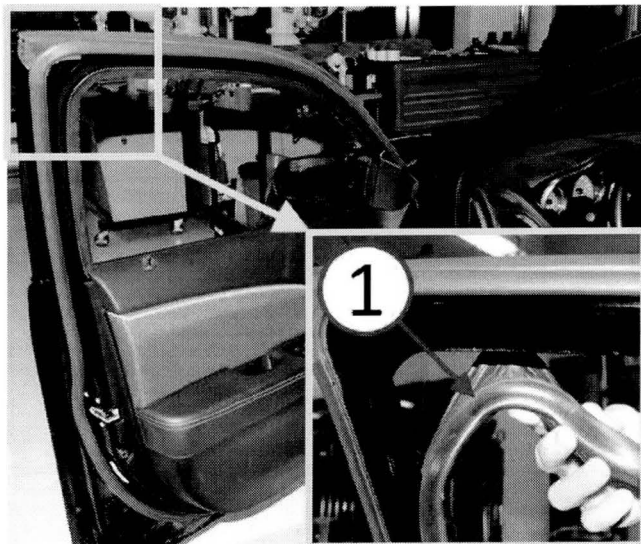

Fig. 1 Remove Window Run Channel Seal
2. Remove the window run channel seal from of the upper B-pillar corner of the left front door window run channel (Fig. 1).